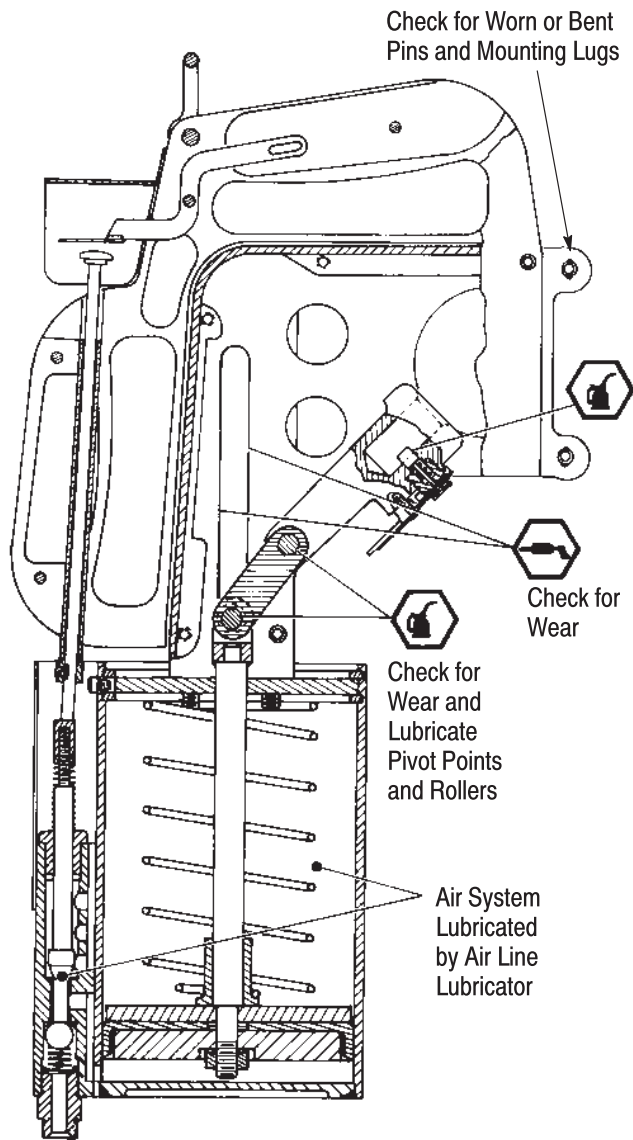

Figure 5
**3.2. Visual Inspection (Monthly)** (See Figure 5)
**3.3. Lubrication** (Figure 5)
It is important that the tool is lubricated at regular intervals to ensure minimum wear and dependable service. The following symbols are used to indicate the areas to be lubricated and the type of lubricant to be used. Refer to Figure 5.